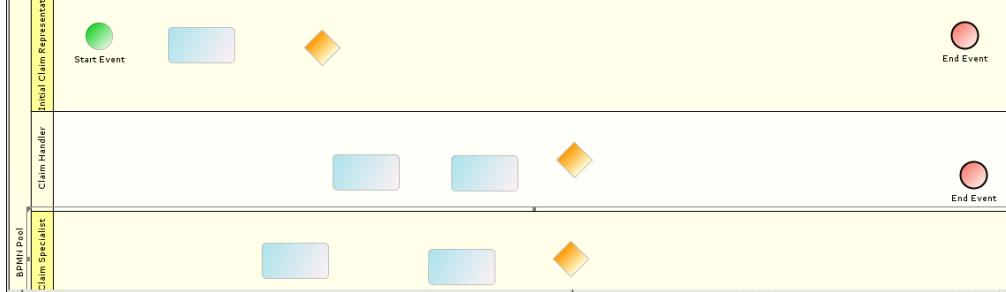

Figure 10: Dragging Gateway into Swim Lane
- Click **Gateway** element () in the Palette and drag in the required swim lanes (see Figure 10).